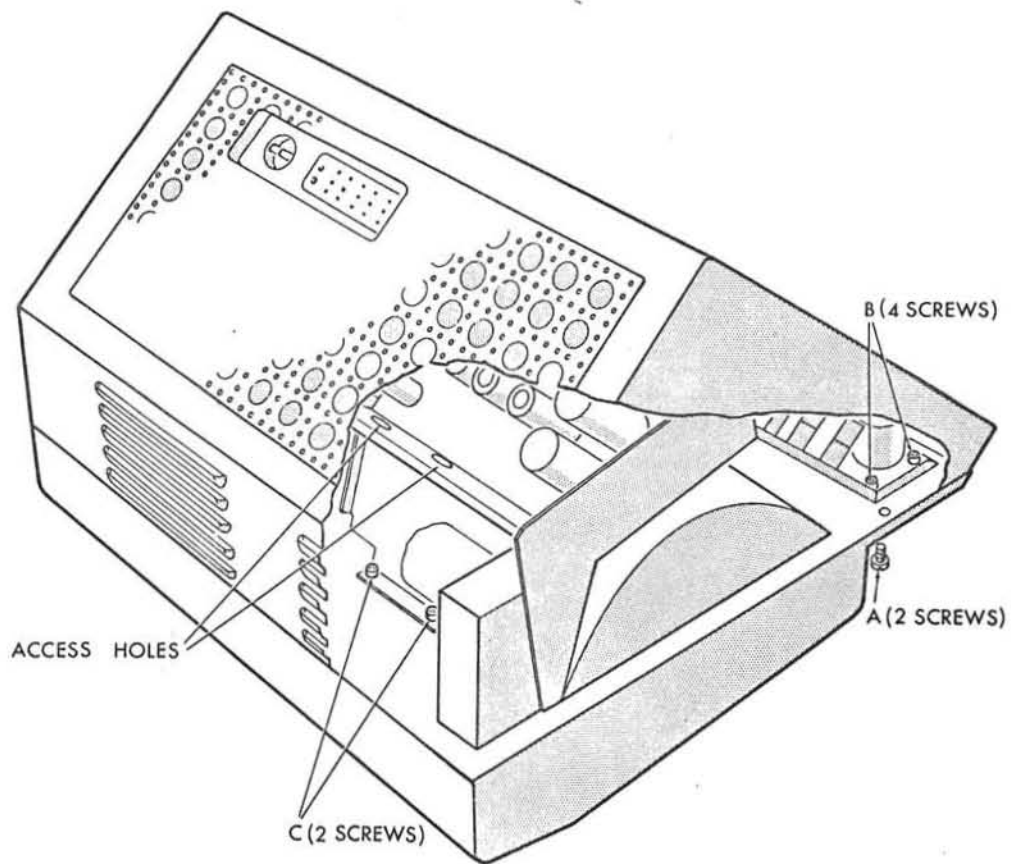

Figure 6. Interchanging Preamplifier Chassis
extending over surface edge to permit access to case-mounting screws, figure 6.
4. Remove two 10-30 oval-head case-mounting screws (A in figure 6) on base plate. Slip case free of positioning dowels and remove from plotter assembly.
5. Remove four 8-32 screws (B in figure 6) that secure corners of preamplifier chassis control knob panel to main frame.
6. Remove two 8-32 screws (C in figure 6) that hold flange of preamplifier chassis to main frame of plotter assembly. Screws are accessible through access holes in chassis.